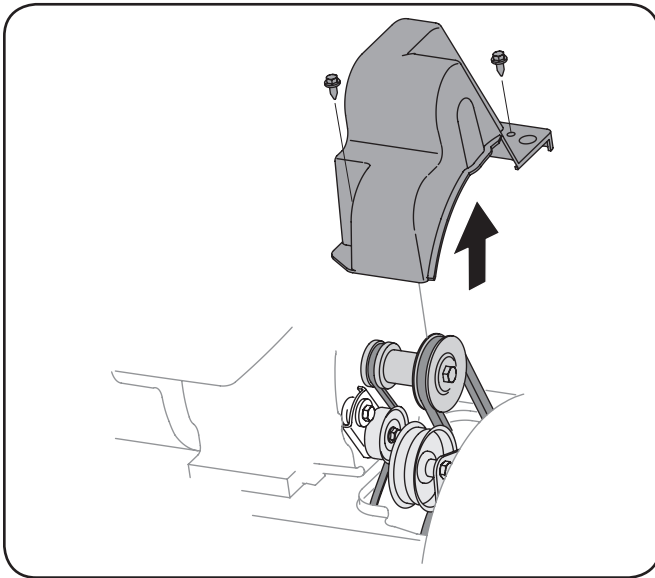

Figure 7-1
2. Remove the plastic belt cover at the front of the engine by removing the two self-tapping screws. See Figure 7-1.
- Remove the plastic belt cover on the front of the engine by removing the two self-tapping screws. Refer to Figure 7-1.